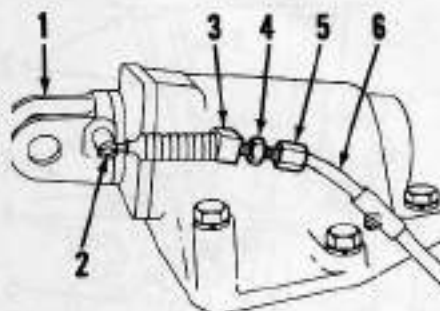

Fig. 232 - View of sensing cable and its adjustment points.
410. **DRAFT SENSING CABLE ADJUSTMENT.** Remove upper link and install weight bar and weights on lower lift arms only. Select **DRAFT** on selector dial and turn jam nut (4 - Fig. 232) clockwise until it almost touches adjuster (5). Turn adjuster until it stops against select spring. This position should be just before lever enters **SELECT** position. Start engine and when weighted lift arms reach their highest position, turn adjuster (5) until lift arms just begin to lower.